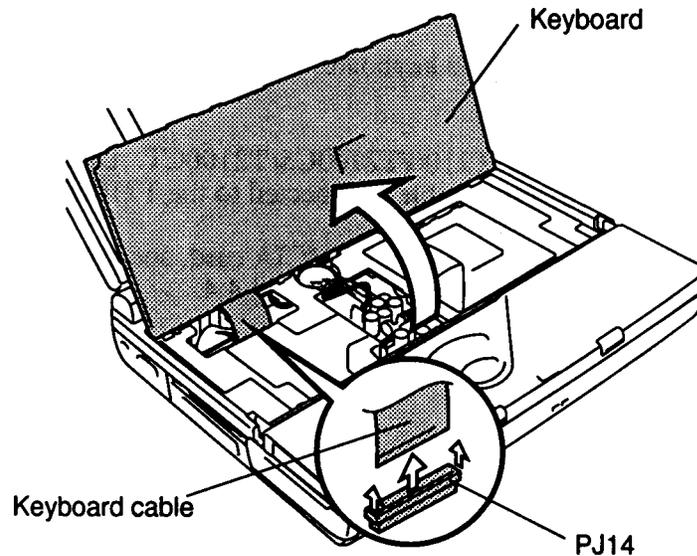

Figure 4-11 Removing the keyboard
4. Carefully lift up the **keyboard** to expose the **keyboard connector** (Figure 4-11).
5. Disconnect the **keyboard cable** from **pressure-plate connector (PJ14)** on the system board (Figure 4-11).
1. Connect the **keyboard cable** to **pressure plate connector (PJ14)** on the system board (Figure 4-11).